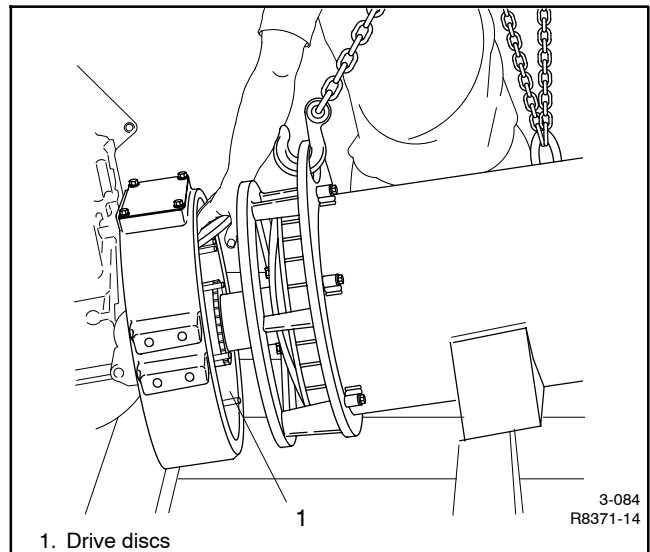

Figure 11-8 Separating Alternator and Engine
18. Work the drive discs over the studs (if equipped) to separate the alternator from the engine. See Figure 11-8.